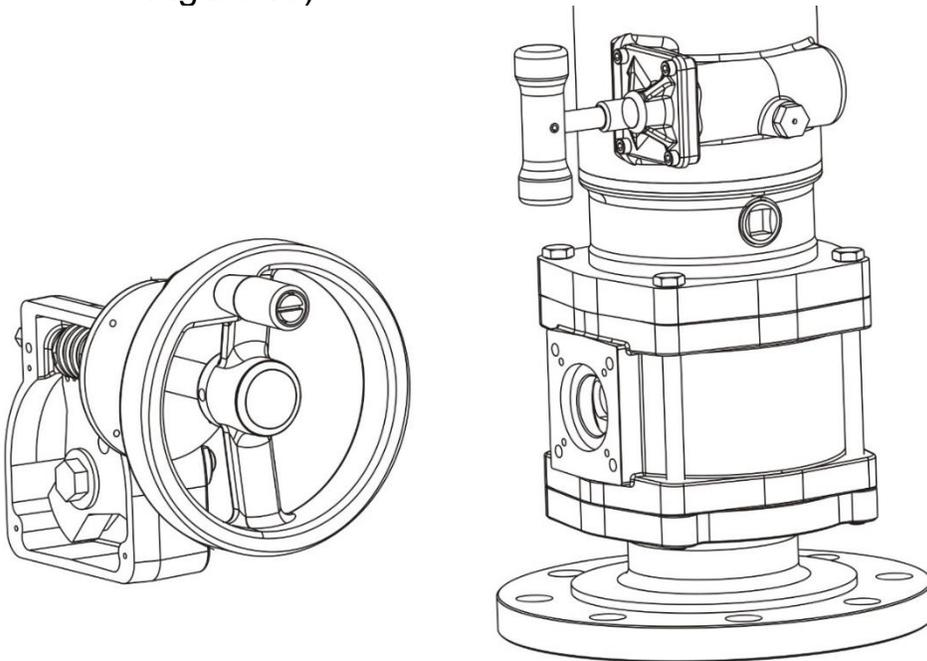

Figure 16
- Remove the gear assembly from the integral valve body. (see Figure 16)
- Install the gear actuator on the valve body in the proper orientation (see Figure 16)